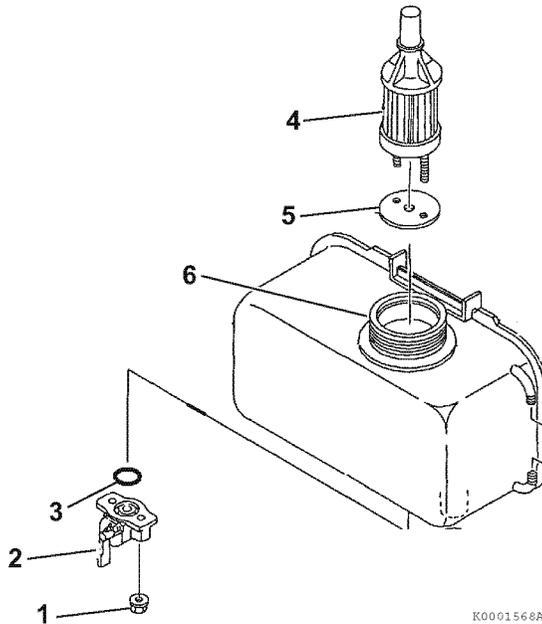

Figure 9
4. Loosen the fuel cock nuts (1, **Figure 9**) on either side of the fuel cock (2, **Figure 9**).
5. Remove and discard the O-ring (3, **Figure 9**).
6. Pull the outlet fuel filter (4, **Figure 9**) and gasket (5, **Figure 9**) out of the fuel tank filler port (6, **Figure 9**).
7. Install a new outlet fuel filter (4, **Figure 9**) and gasket (5, **Figure 9**) through the fuel tank filler port (6, **Figure 9**) and seat in the fuel tank.
8. Install a new O-ring (3, **Figure 9**) on the fuel cock (2, **Figure 9**) and fasten the assembly to the fuel tank using the fuel cock nuts (1, **Figure 9**).